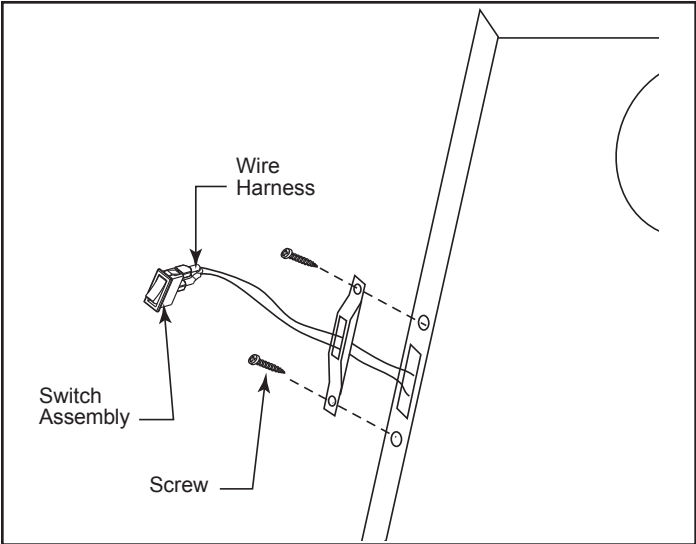

Figure 53 - Attach switch assembly to rear shroud.
1. Apply wiring harness to the ON/OFF switch terminals then insert into cut out on switch housing. The ON/OFF switch will ‘snap’ into the cutout, Figure 53.